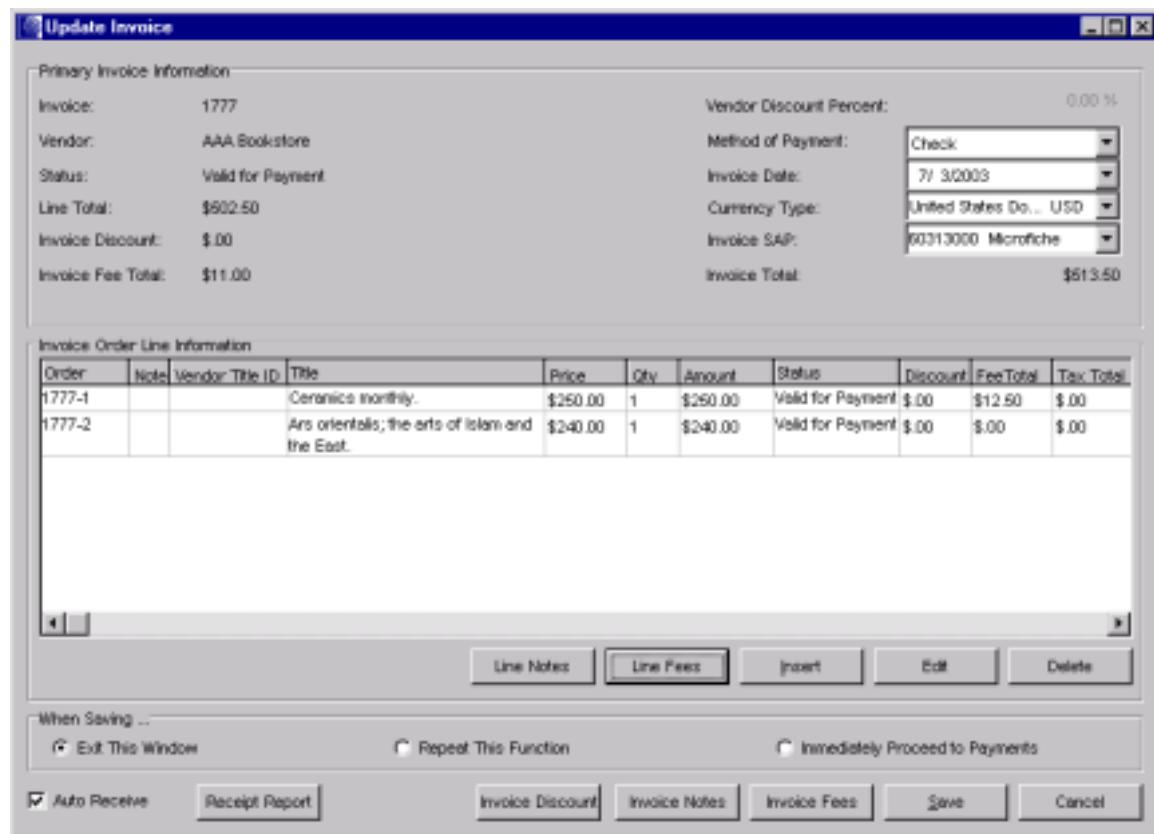

Figure 7-27. Update Invoice Window - Line Fee Displayed
The Update Invoice window (*Figure 7-27*) becomes active, displaying an updated line fee in the Fee Total column for the selected line item. The software automatically adjusts the Invoice Total accordingly.
1. On the Update Invoice window (*Figure 7-27*), click the Invoice Discount button.